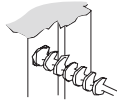

Figure 4b
- Drill 1" (25mm) hole 1-3/16" (30mm) deep in door jamb on center mark (Figure 4b).